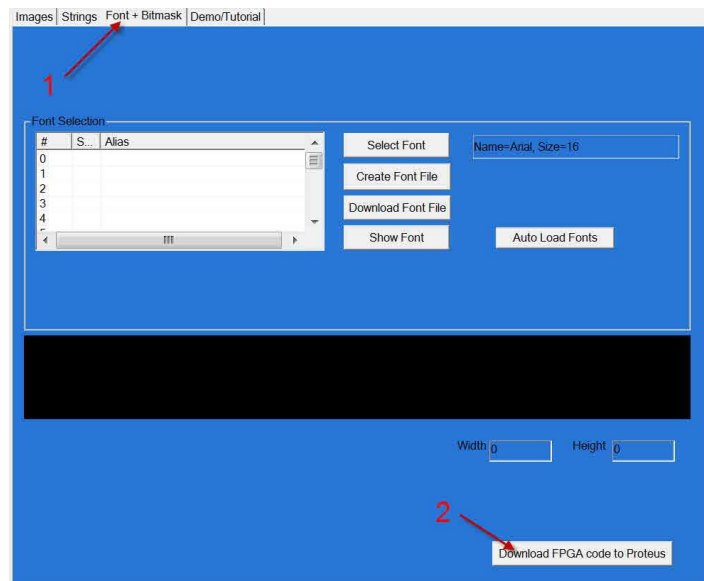

Figure 87
2. Start **ProteusApp-USB 921K** and select “Font + Bitmask” tab [1] in Figure 87
4. Click button [2] in Figure 87 and browse to *C:\Videologix-IV\Firmware\FPGA-SDI*.BIN* to obtain the FPGA firmware.